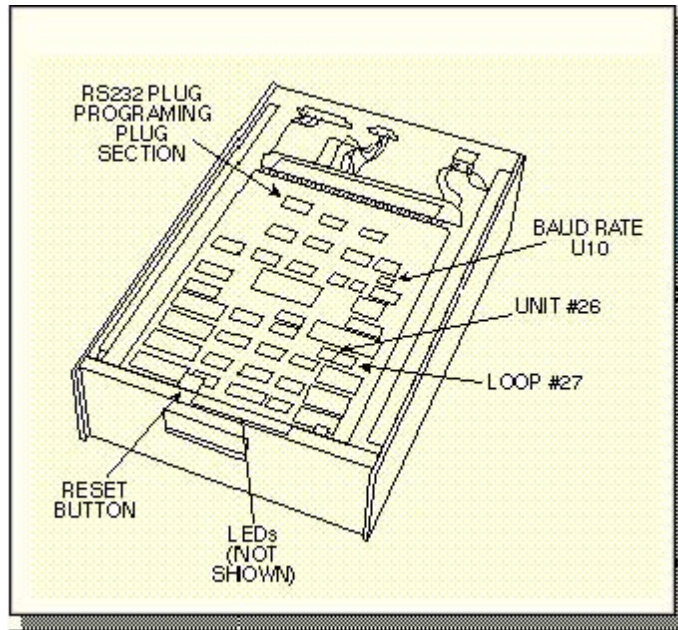

Figure 8. Data Hiway Interface Enclosure
2. Observe the LEDs on the PCI; see Figure 8. The eight center LEDs should all flash "on" for approximately 1 second then go off.